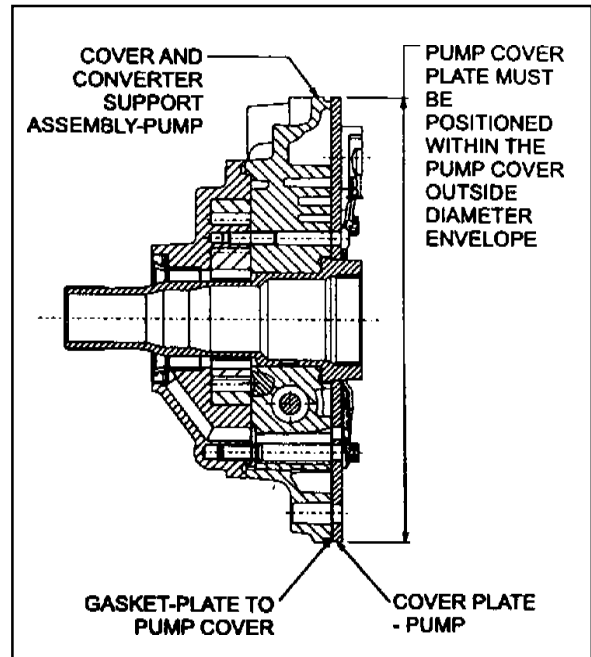

Figure 8.34 - Pump, Cover and Converter Support
To assemble the pump cover and converter support (refer to figures 8.34 and 8.35), proceed as follows.
19. Install the cover plate, solenoid 7 with the retainer and the solenoid wiring retainer to the pump cover, ensuring that the periphery of the cover plate is flush with the periphery of the pump cover. Refer to figure 8.34.